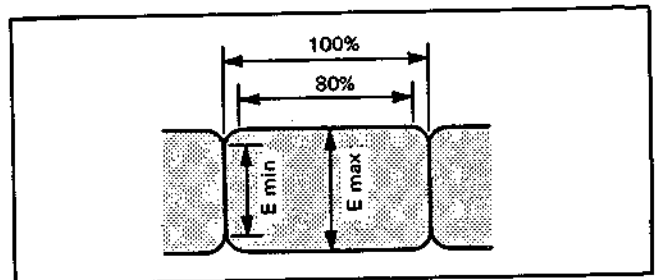

Fig. 4-32
- 3) Confirm that the RF output waveform satisfies the conditions in Fig. 4-32. If not, readjust tape path.